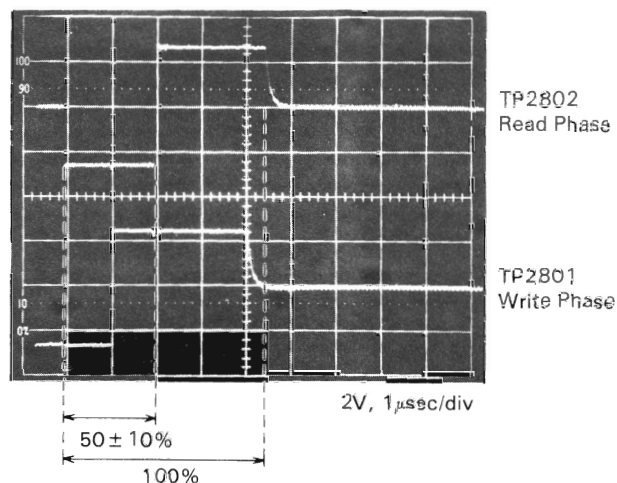

Figure 2-10
3. Connect an oscilloscope to TP2801 and adjust C2804 (Write Phase Adj.) for a duty cycle of $50 \pm 10\%$. (Fig. 2-10)
3. Connect an oscilloscope to TP2802 and adjust C2810 (Read Phase Adj.) for a duty cycle of $50 \pm 10\%$. (Fig. 2-10)